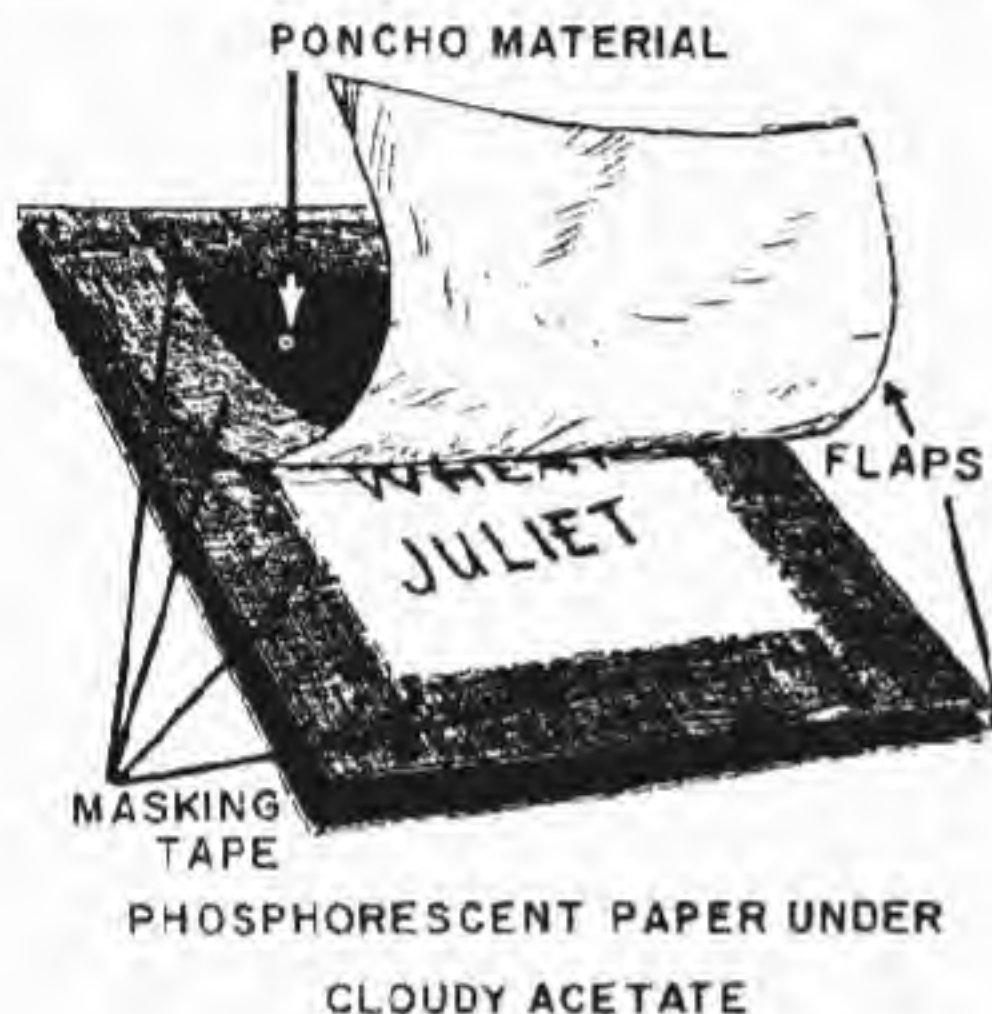

Figure 1
1. **LUMINOUS NOTEBOOK** (Figure 1) - Distances, directions, call signs and check points may be recorded on the acetate with grease pencil which can be easily seen in the dark against the glow of the luminous paper. A quick smear with the thumb can protect against possible compromise. Patrol leaders may also use the notebook handy for flashing prearranged signals in the dark.